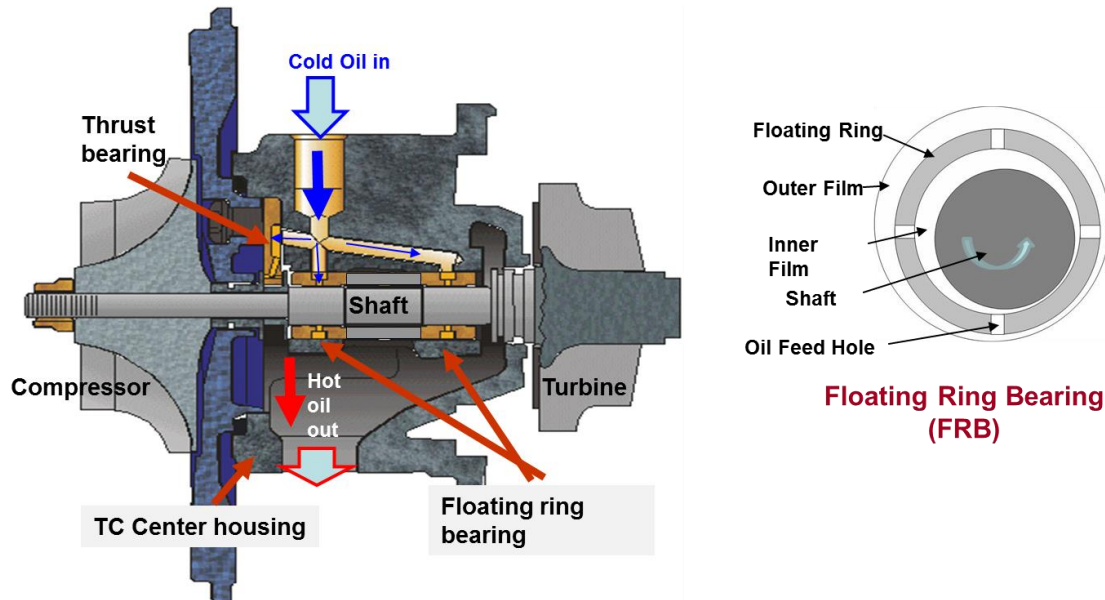

Fig. 1. Cross section of passenger vehicle turbocharger and schematic view of floating ring bearing
Figure 1 depicts a schematic view of an automotive (commercial vehicle) turbocharger (TC). The TC comprises of a casing, a rotor: a thin steel shaft connecting a heavy (T) turbine wheel to a light (C) compressor wheel, two floating ring bearings supporting the rotor and an axial thrust bearing. Engine oil lubricates the films made by the floating ring bearings (FRBs), one on the C side and another on the T side. Each FRB makes two fluid films: an inner film between the shaft OD and the FRB ID, and an outer film between the FRB OD and the casing ID. The FRBs rotate with angular speed (Ω_R) at a fraction of the shaft speed (Ω_S).
column1: shaft speed → column2: compressor ring angular speed, column3: turbine ring angular speed. Each of the floating rings has four holes for lubricant feeding into the inner film land (See Fig. 1). Fiber-optic sensors counted the frequency at which a hole passed by the sensor, hence allowing to record the spinning speed of the floating ring. The fiber optic sensor was not always successful in counting an actual speed (hence some are zero).